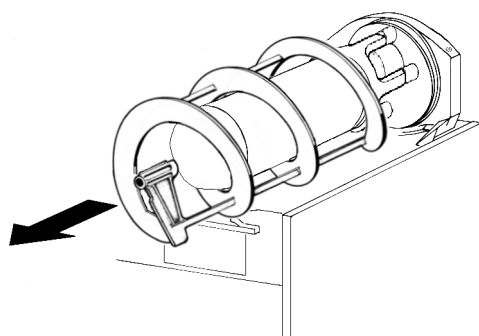
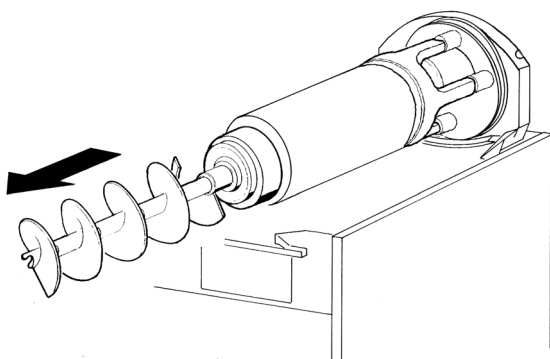

figure 7
figure 8
- 3 - Slide the outer spiral out (see figure 7) and then the inside auger (see figure 8).